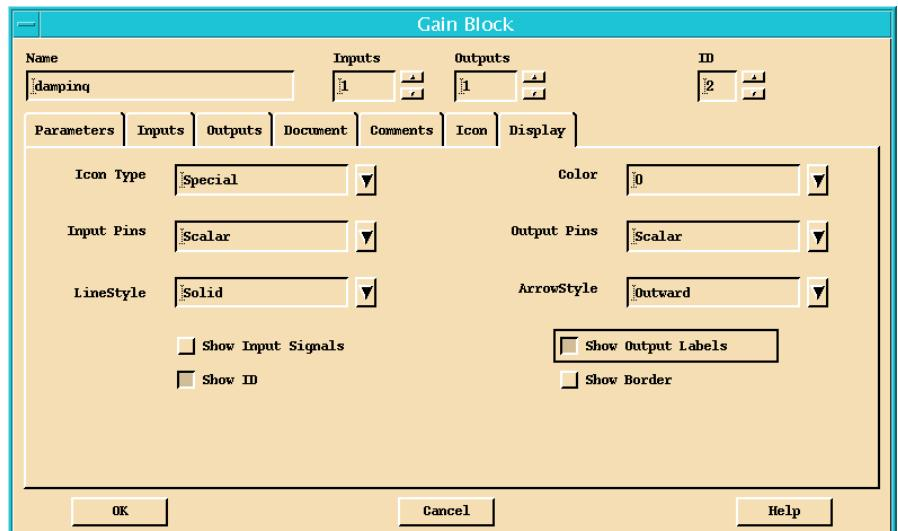

Figure 4-19. Gain Block (Display Tab)
e. Click the Display tab (see Figure 4-19), and enable the **Show Output Labels** check box.